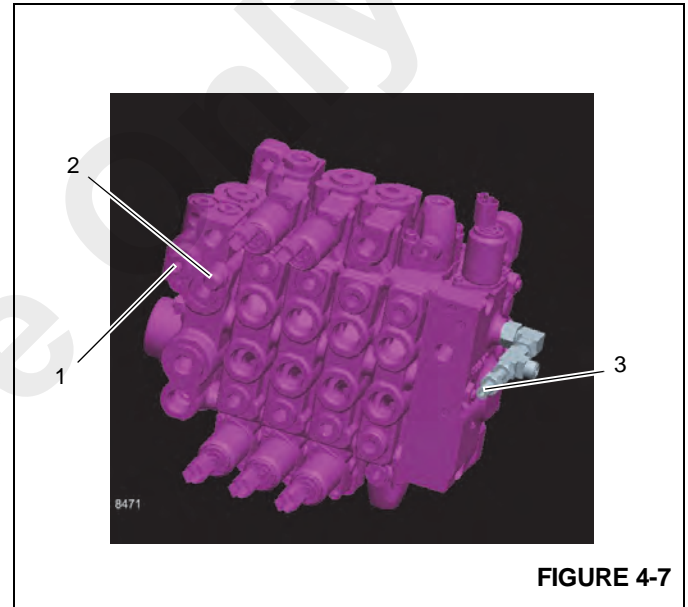

FIGURE 4-7
2. On the control valve, remove the cap on the load sense relief valve (1, Figure 4-7) loosen the jam nut and turn the adjusting screw fully in.
2. Start Engine, ensure the boom is all the way down. Activate the boom down function at full engine RPM, gauge should read 238 ± 3.5 bar (3450 ± 50 psi), if the pressure needs to be adjusted adjust the load sense relief setting by turning the relief valve adjusting screw (1, Figure 4-7) until 238 ± 3.5 bar (3450 ± 50 psi) pressure is obtained on the pressure gauge; clockwise increases pressure, counterclockwise reduces the pressure.
3. With the engine at full RPM turn steering wheel all the way to one side until the steer cylinder bottoms out while another person adjusts the priority flow load sense relief setting by turning the relief valve adjusting screw (2, Figure 4-7) until 172 ± 3.5 bar (2500 ± 50 psi) is obtained on the pressure gauge; clockwise increases pressure, counterclockwise reduces the pressure.
- a. With the engine shutdown and the parking brake set, install pressure diagnostic (Parker PD240) with gauge onto pilot test port (3, Figure 4-7) of the control valve.